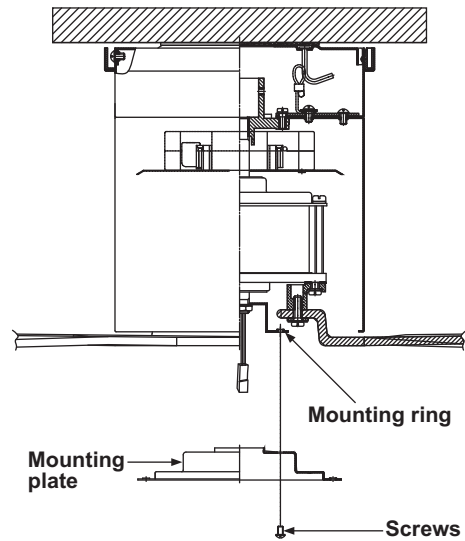

Figure 13
1. Connect the fan supply (black) wire to the black household supply wire as shown in Figure 13.
2. Place the key holes on the mounting plate over the 2 screws previously loosened from the mounting ring, turn mounting plate until it locks in place at the narrow section of the key holes. Secure by tightening the 2 screws previously loosened and the one previously removed. (Fig. 13)